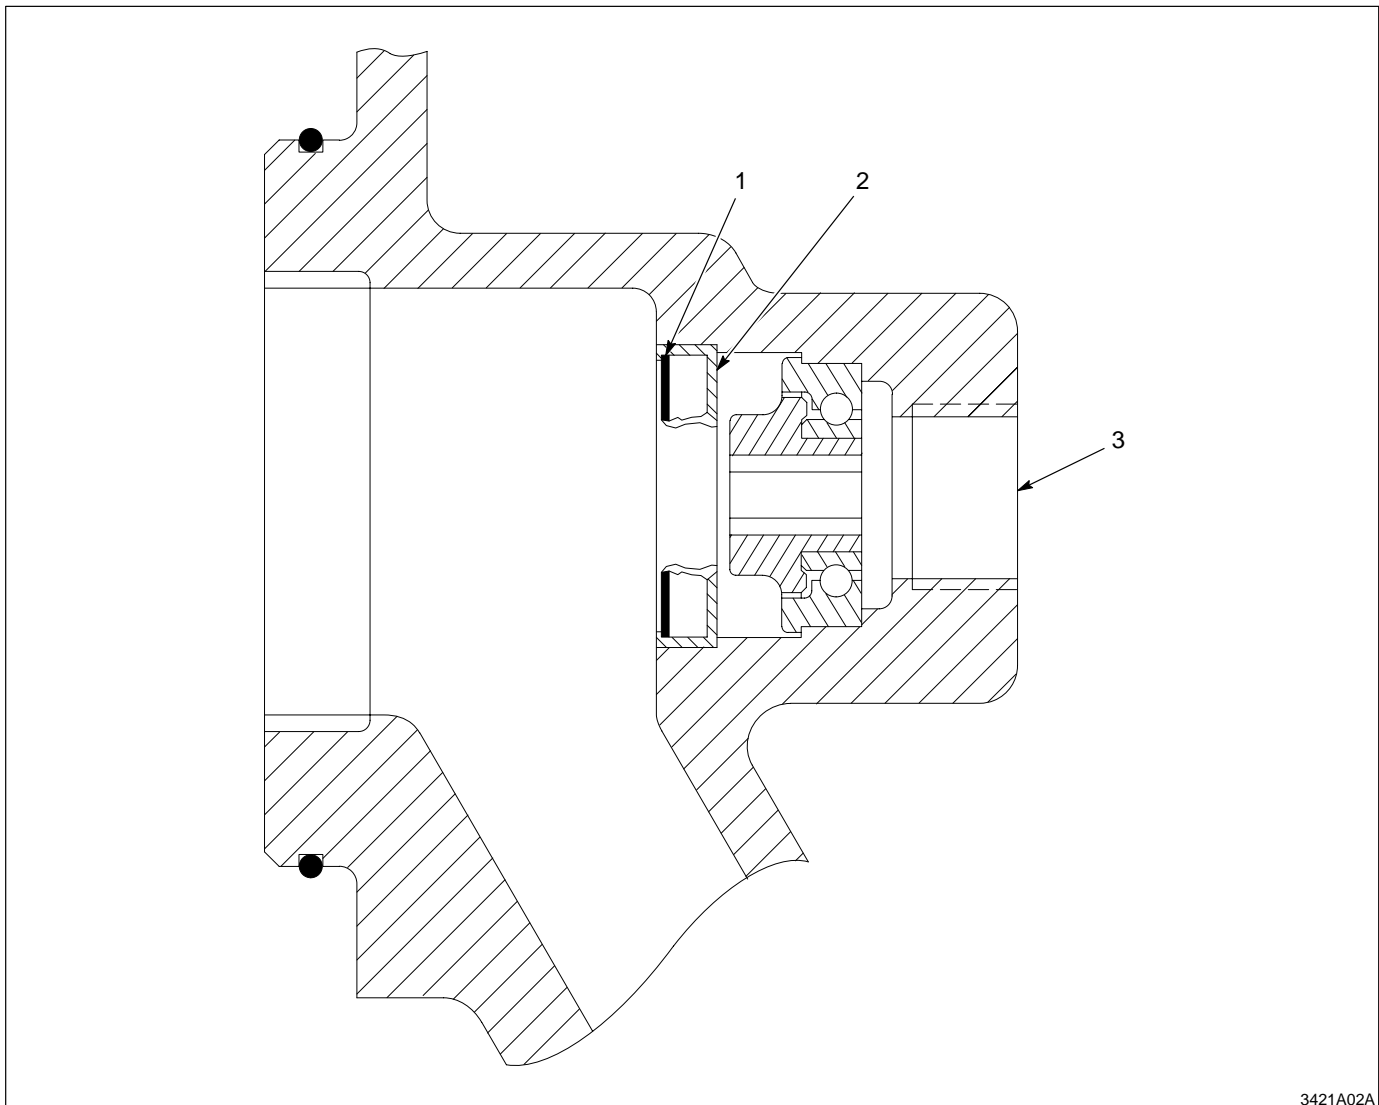

Fig. 2 End Cap Cutaway View
3. Locate the lip shield (2). When installed in the end cap, this side of the seal faces away from the bearing towards the inside of the sieve housing. The lip shield is a separate piece, welded to the rolled edge of the metal housing (1).
4. Fold back the seal lip (3) and remove the spring, if present.
**NOTE:** Figure 2 illustrates the proper orientation of the bearing and seal when installed in the end cap.